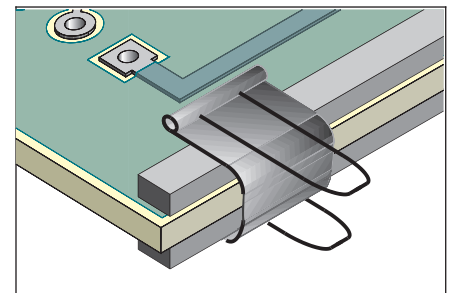

Figure 2 Clamp restraint bars to edge needing rework.
2. Place the restraint bars along the edges that require rework. (See Figure 2.)